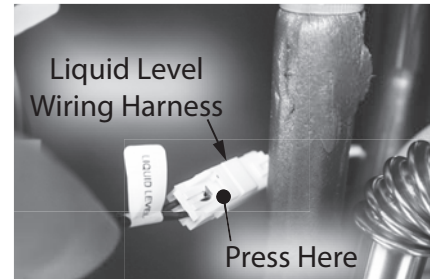

Figure 238 - Liquid level wiring harness location
- 19 Trace the black wires from the condensate trap to the wiring harness marked "LIQUID LEVEL" and disconnect them. See Figure 238.